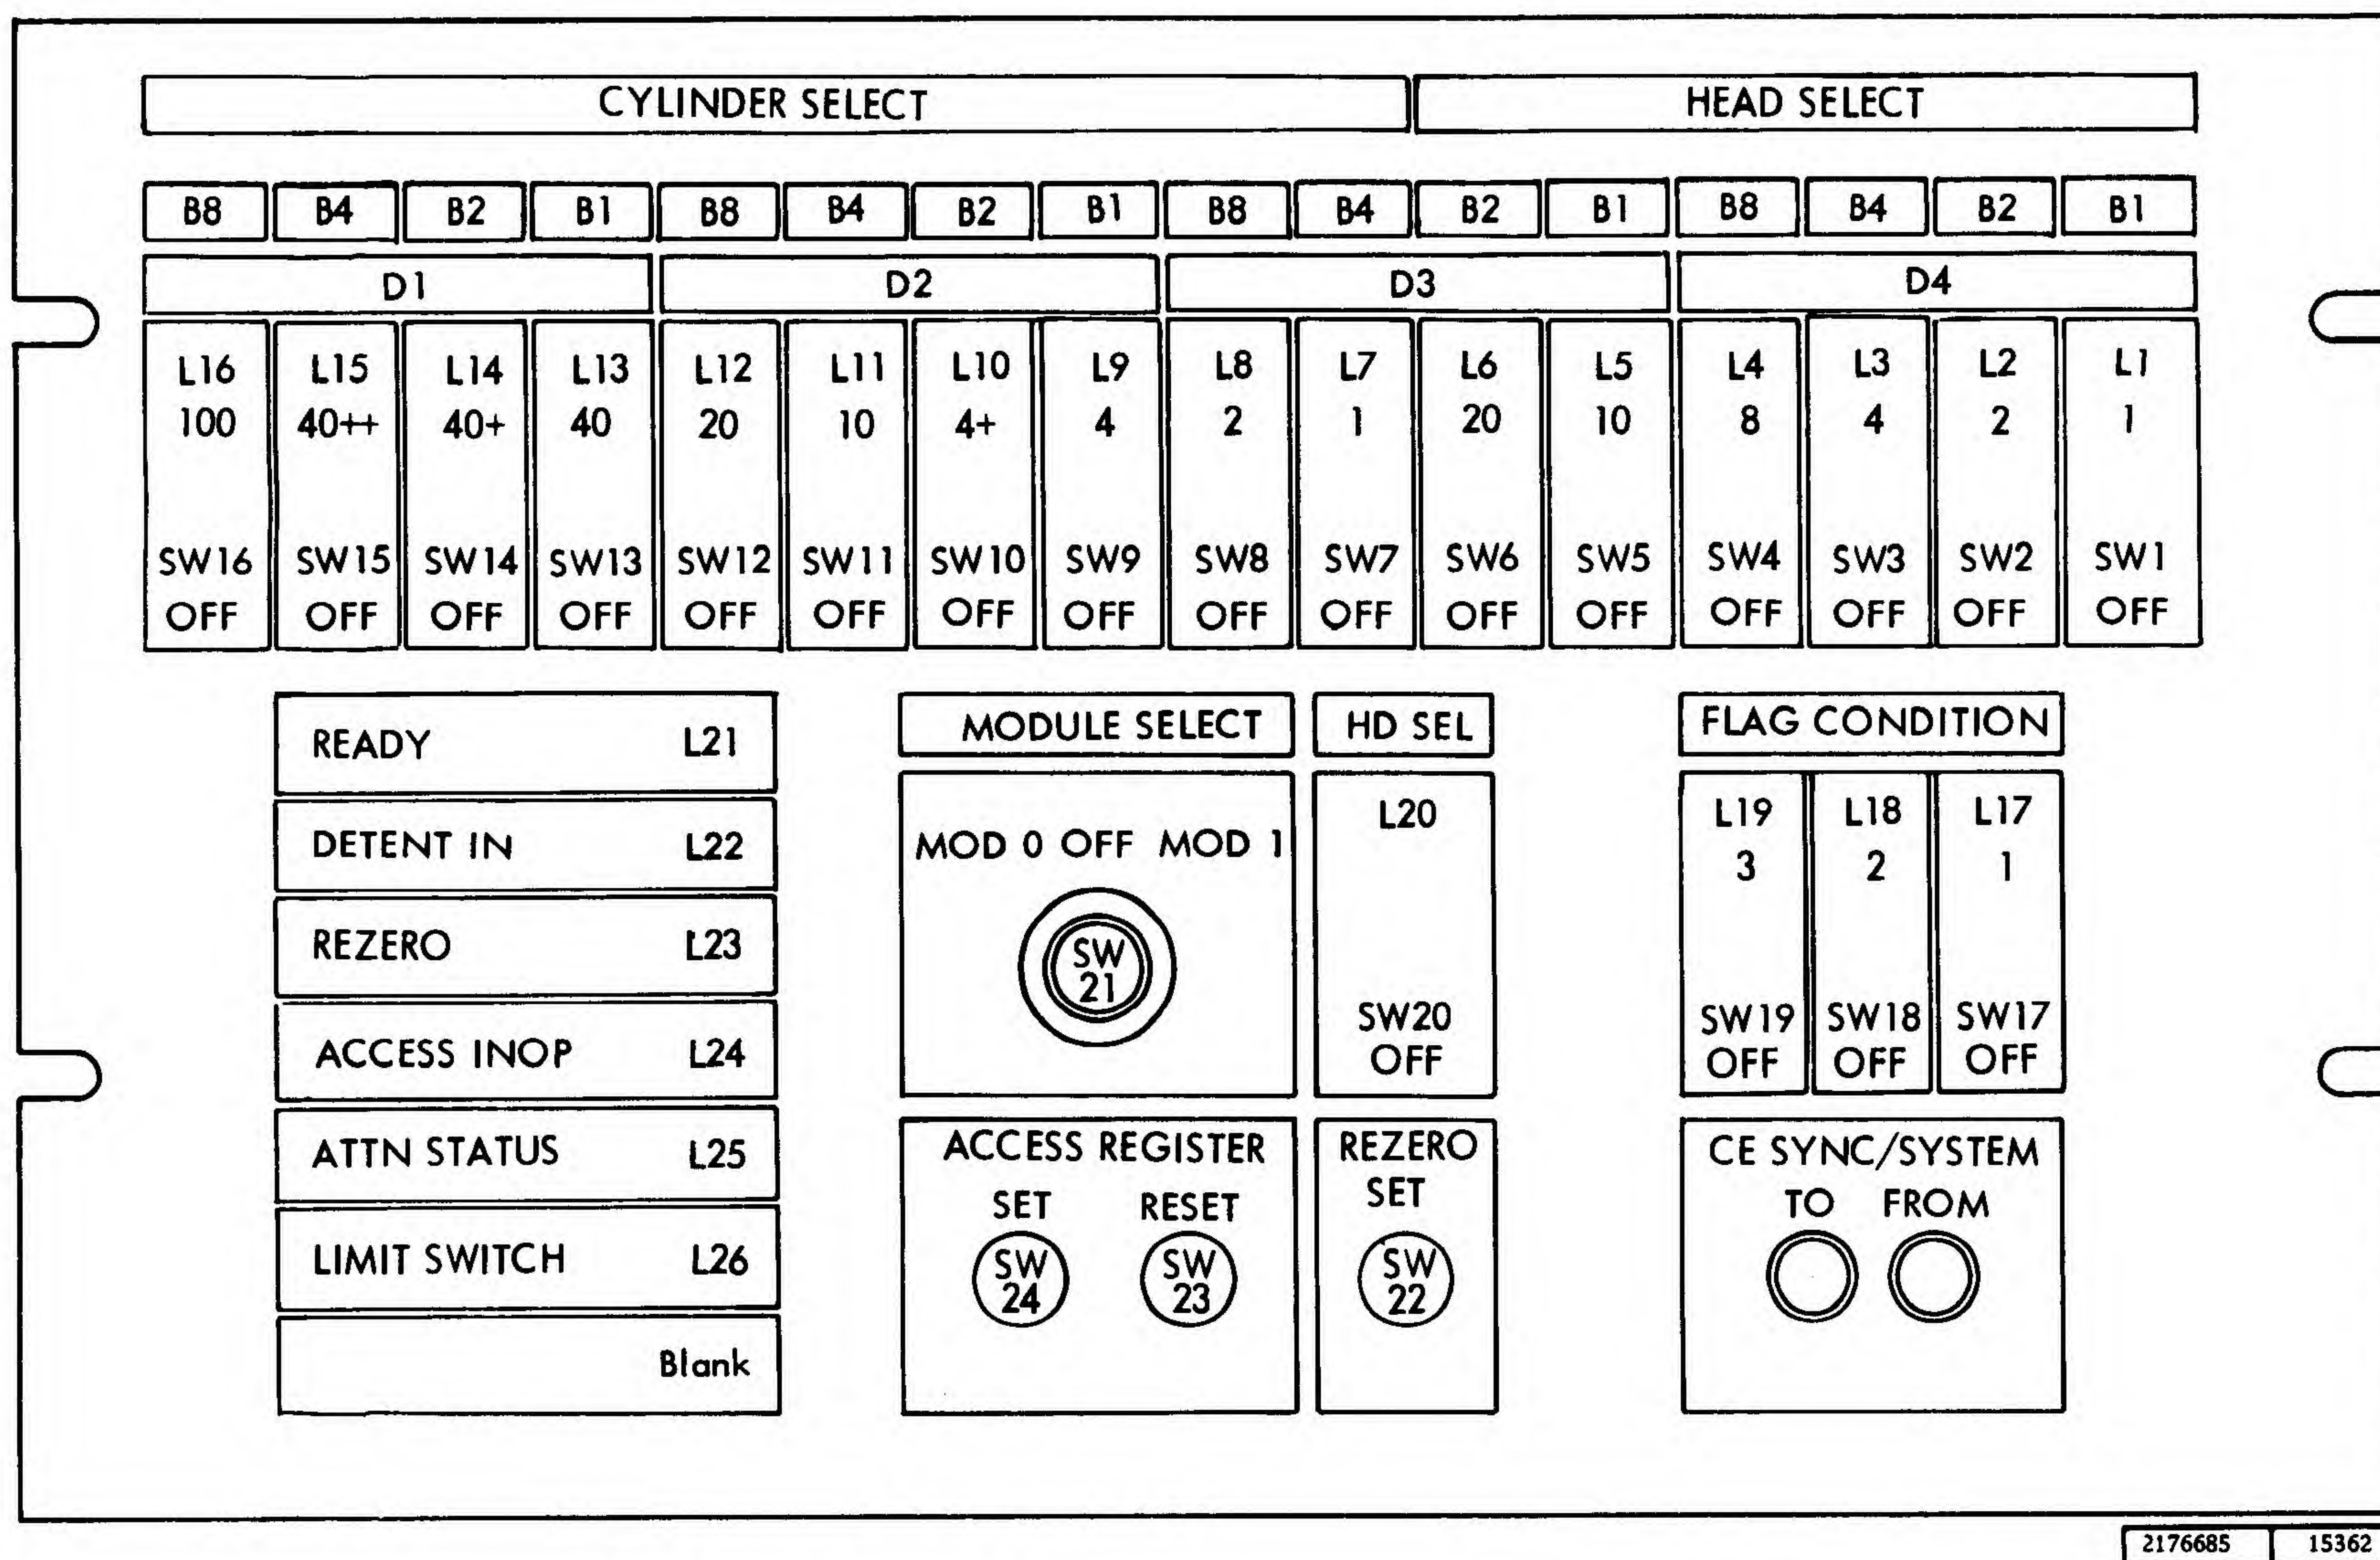

Figure 4-1 CE Test Control Panel
4.1 CE TEST CONTROL PANEL (Figure 4-1)